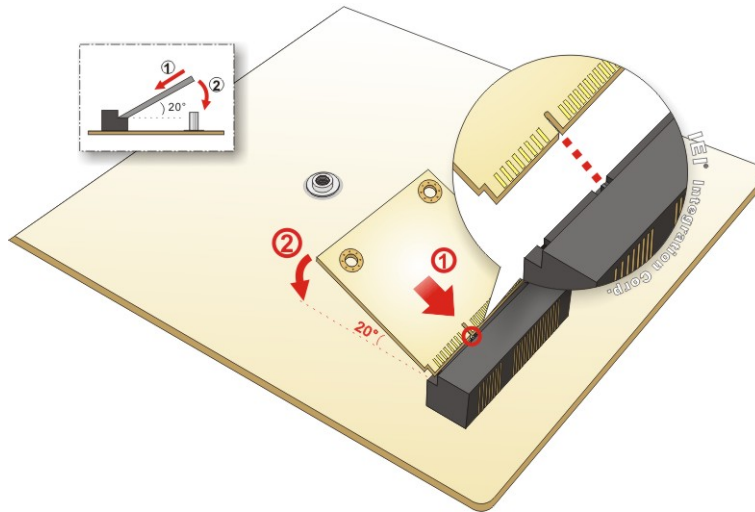

Figure 4-3: Inserting the Half-size PCIe Mini Card into the Slot at an Angle
- Step 3:** Insert into the socket at an angle. Line up the notch on the card with the notch on the slot. Slide the PCIe Mini card into the slot at an angle of about 20° (Figure 4-3).